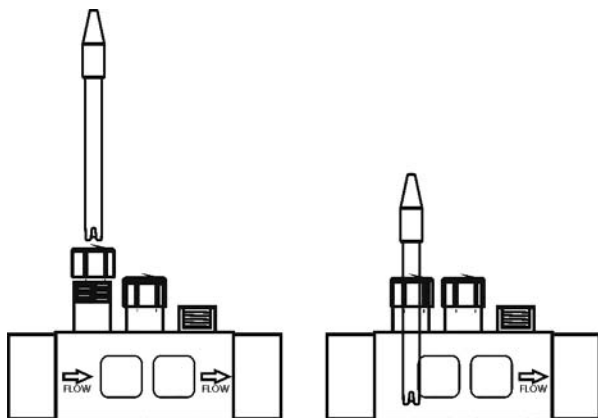

Fig. 12
1. Insert the pH / ORP sensors into their corresponding places of the holder (Fig. 12)